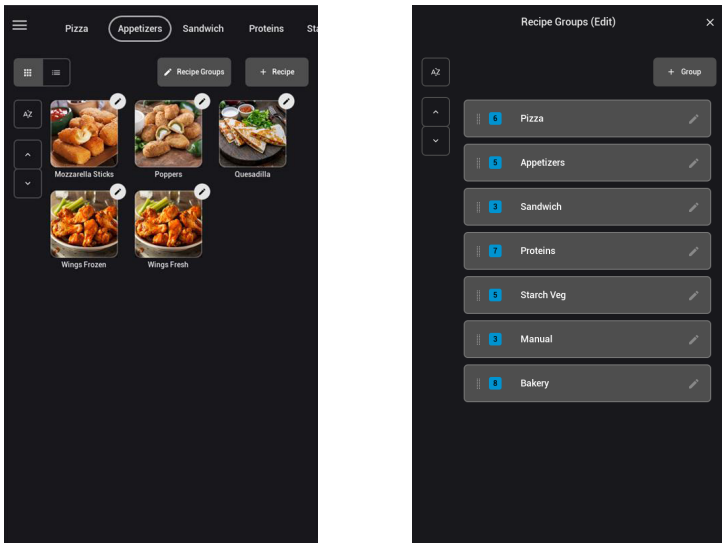

Figure 16: Edit Mode: Create Group
1. Touch the Edit button in the top-right corner of the screen (Figure 16, above).
2. Touch the “+Group” button (Figure 16, above).